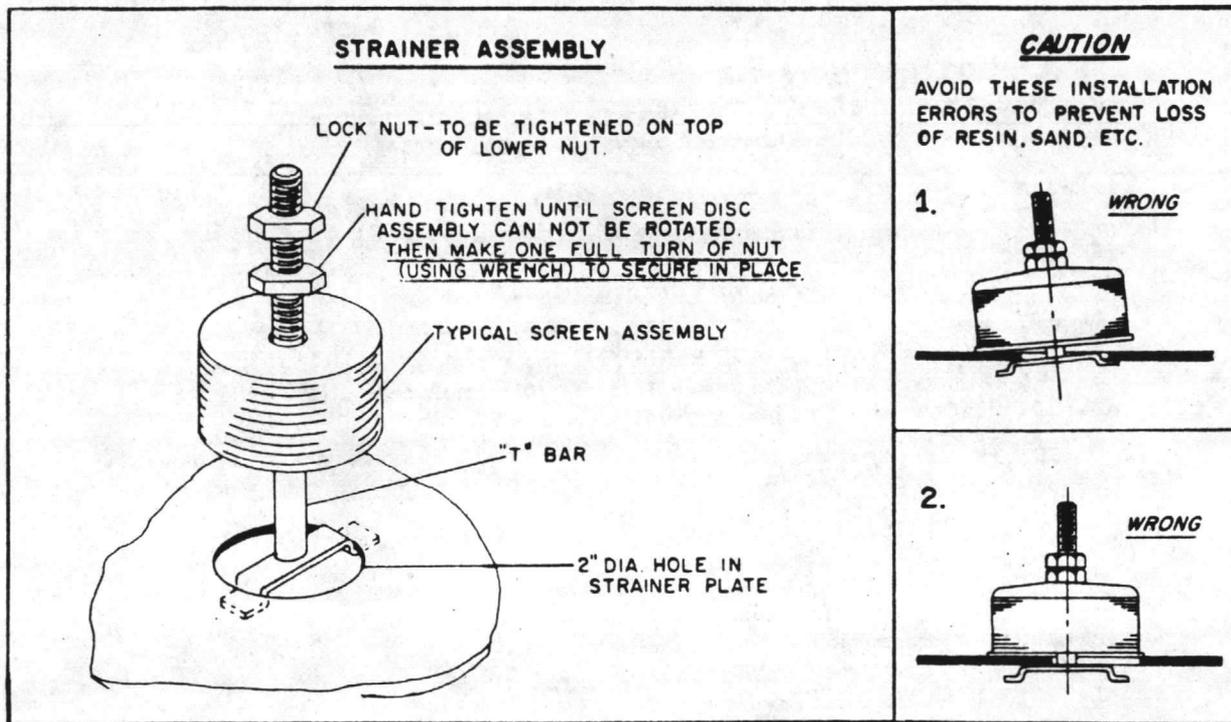

Figure 1.
- On larger units, strainer assemblies will be shipped separately for installation at the job site. SEE FIGURE 1 for assembly and installation procedure.